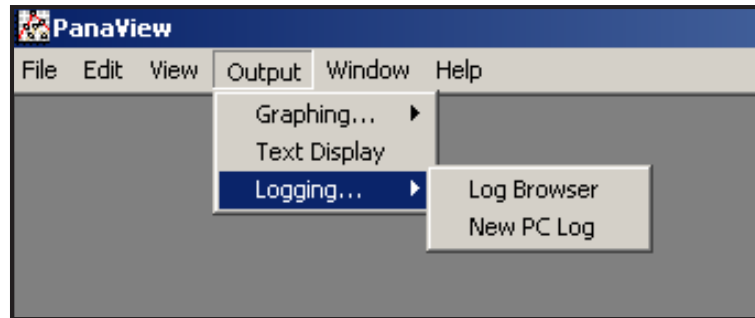
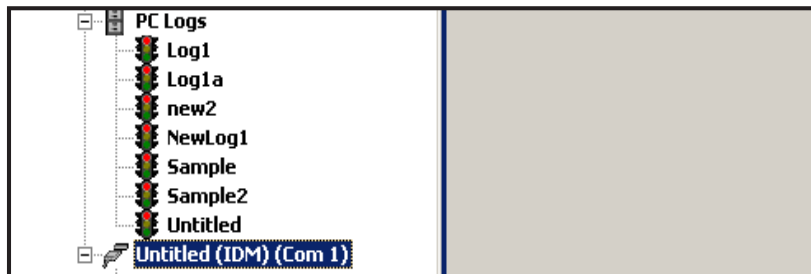
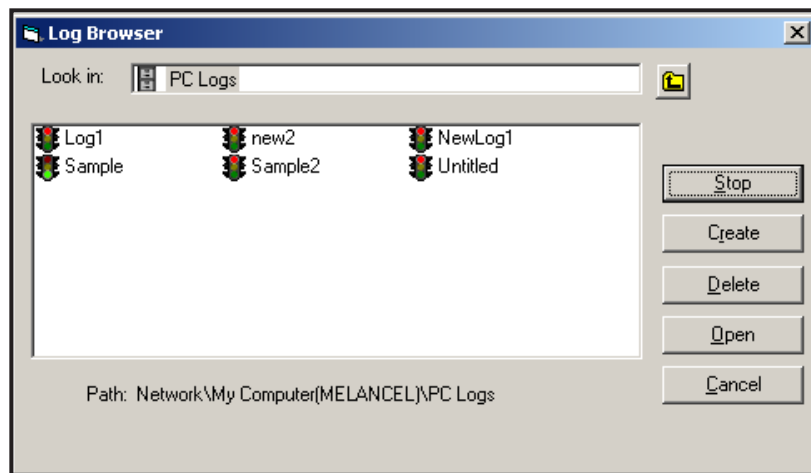

Figure 13: Selections in the Logging Option
Figure 22: Expanded PC Logs Option
Figure 23: Selecting a Log File from the Log Browser
1. Open the *Output* menu (see Figure 13), and click on the *Logging* option.
- From the *New Meter Browser* in PanaView, expand the network tree and click on the *PC Logs* option. If you have created one or more logs, the tree will appear similar to Figure 22. Double-click on the log name to open the log, or
- Pull down the *Output* menu (see Figure 13 on page 61), and click on the *Log Browser* option. Advance to the *PC Logs* dialog box as described in previous sections. A screen similar to that shown in Figure 23 appears.
Notice that each of the log files in Figure 22 and Figure 23 has a traffic light icon next to its name. These icons indicate the current status of the log as follows: